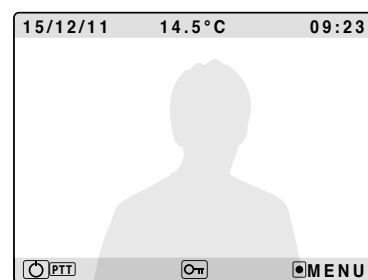

Fig. 9
- To answer in hands free mode press the button (**Fig. 9**) (or pick up the handset on model Art. KRV86);